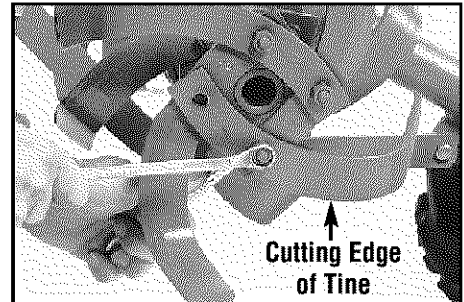

Figure 5-6: Removing single tine.
1. With engine shut off and spark plug wire disconnected, remove two screws and nuts that attach a single tine to a tine holder (Figure 5-6). If needed, use penetrating oil to help free nuts.